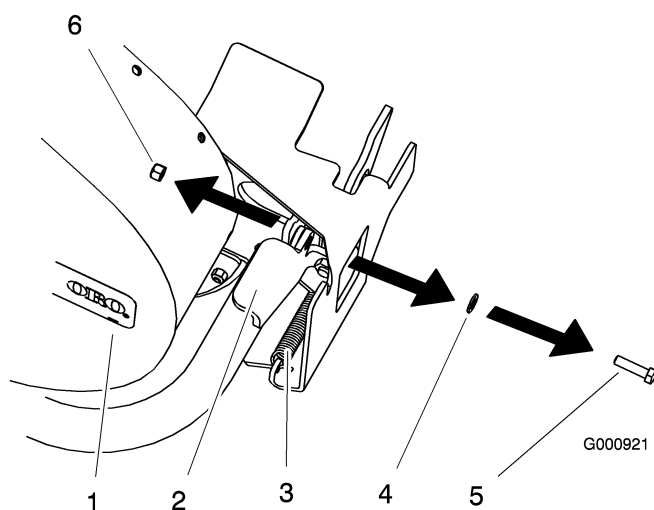
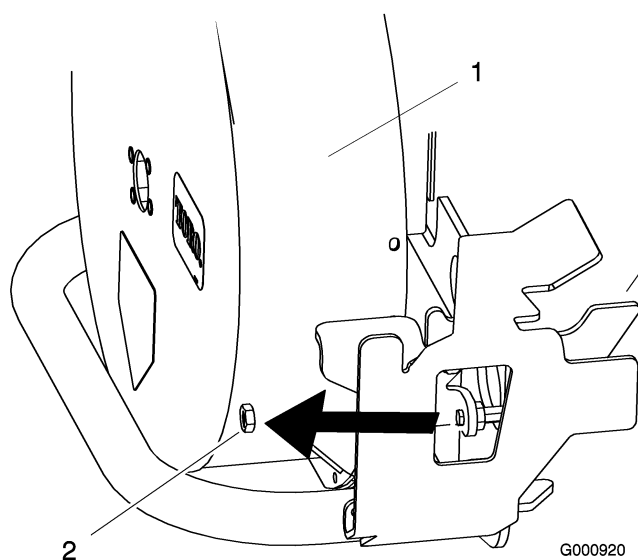

Figure 1
Figure 2
4. Remove the spring from the latch and the blower (Figure 1).
5. Remove the nuts and bolt holding the existing latch to the blower and remove it. Discard the latch, spring and hardware (Figure 1 and Figure 2).